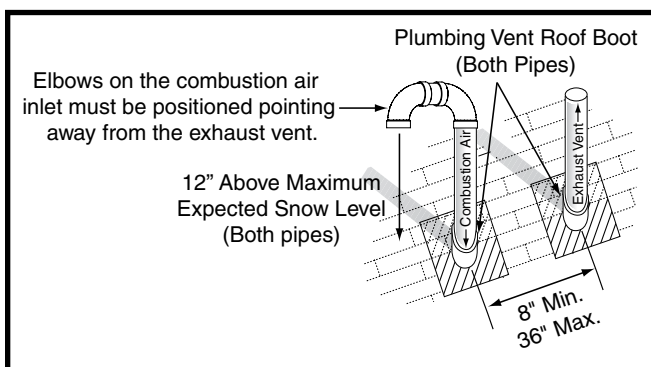

Figure 10. Vertical Vent Termination
Termination spacing requirements from the roof and from each other are shown in Figure 10 \(page 13\). The roof penetration must be properly flashed and waterproofed with a plumbing roof boot or equivalent flashing. Vent and combustion air piping may be installed in an existing chimney which is not in use provided that:
- The termination clearances shown in Figure 10 are maintained.